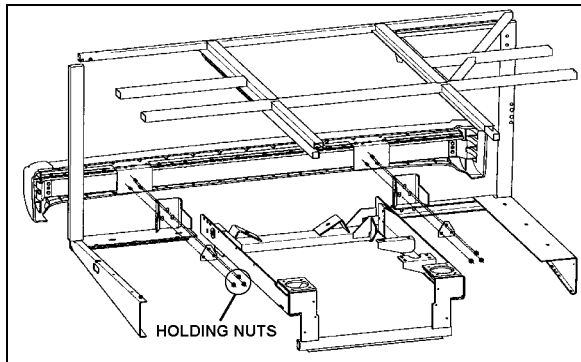

FIGURE 12: REAR BUMPER ASSEMBLY 18501
1. Remove 6 nuts (3 on each side) holding bumper assembly to vehicle and remove bumper (Figure 12).